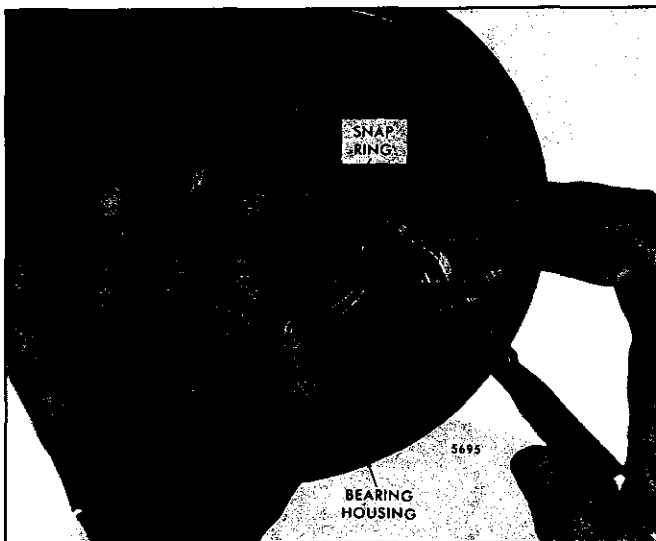

Fig. 7 – Removing External Snap Ring from Bearing Housing
7. Remove the external snap ring from the compressor end of the bearing housing (Fig. 7). Use medium size internal snap ring pliers and restrain the ring with a shop cloth to prevent injury, in the event the ring goes astray.
**CAUTION:** To prevent eye or facial injury, use a clean rag to snub the ring should it slip from the pliers during compression (Fig. 7).